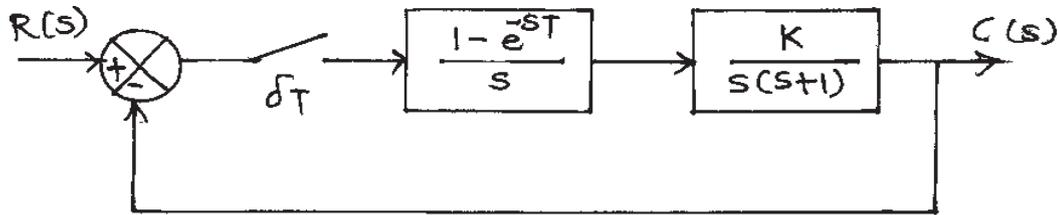

Fig. 3
- b) For a unity feedback closed loop system (Fig.3) to be stable, find the range of  $K > 0$  (static gain constant) when  $T=1$  sec,  $T=2$  sec and  $T=4$  sec Comment on the effect of sampling on stability and static gain constant. [10]